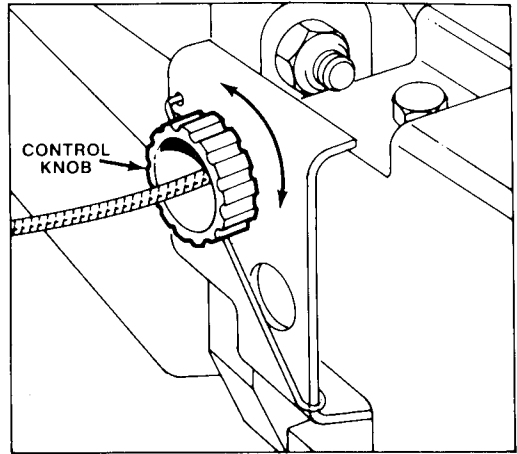

Figure 17
2. ADJUSTMENT (Fig. 17) — Rotate control knob clockwise 1/2 turn if mower does not self-propel. If mower creeps forward, rotate knob 1/2 turn counterclockwise to loosen belt.